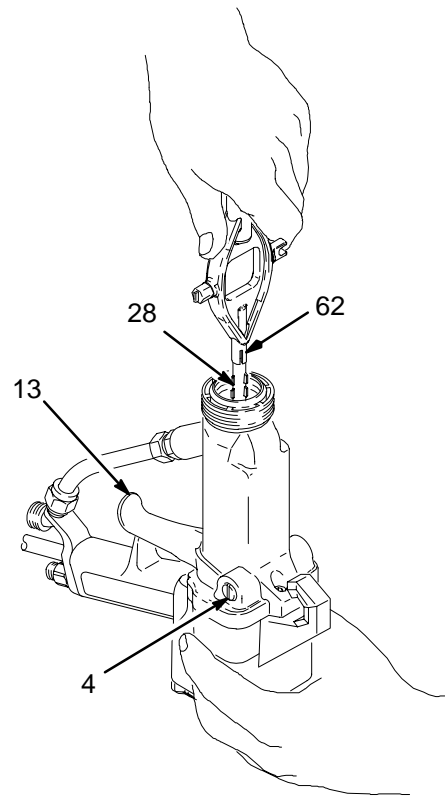

Fig. 16
3. Loosen the trigger screws (4) far enough to remove the trigger (13).
4. Remove the packing cartridge and needle assembly (28), using the multi-tool (62). See Fig. 16.